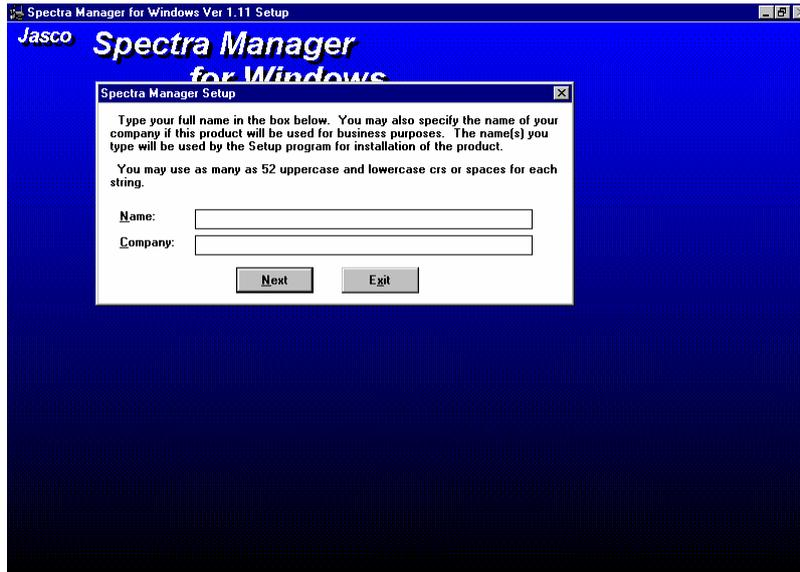

Fig. 12.6 [Spectra Manager Setup] dialog box
- (5) Click the <Finish> button. The dialog box shown in Fig. 12.6 will be displayed.
- (1) Input the name of the operator or company in the text box shown in Fig. 12.6. The name input is registered in the system. This procedure can be skipped if registration is unnecessary.